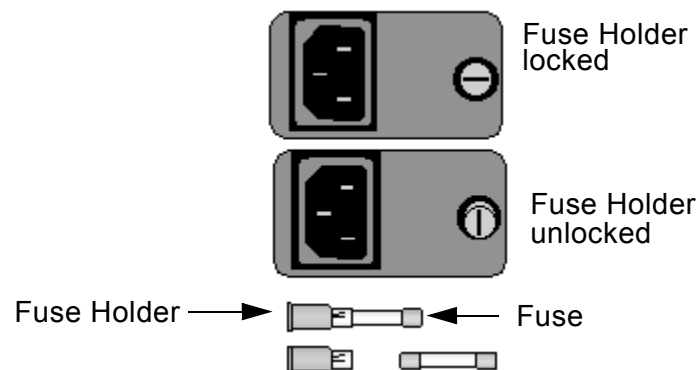

Figure 12. Replacing the Fuses
- 3 Use a flat-blade screwdriver to turn the fuse holder(s) from horizontal to vertical as shown in Figure 12.